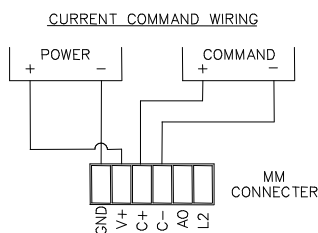

Figure 10
4. See figure 10 for current command wiring.
All current command MMs use a differential current loop scheme, meaning current flow is from C+ to C- on the MM valves. Figure 10 shows the correct connection for conventional current flow.